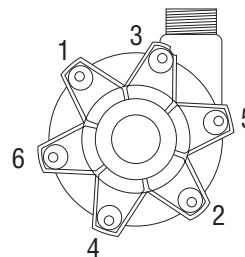

Figure 4
11. Place the barrier/housing adapter on a clean surface with the white ceramic post facing up. Place the impeller drive assembly (items 18 and 19) onto the ceramic post. Install and lubricate (with a chemically compatible lubricant) the housing o-ring (item 17).
13. Install and lubricate the diffuser o-ring (item 21). Install the diffuser assembly (item 22) being careful not to dislodge the o-ring and to keep the bolt hole alignment straight.
14. If the impeller drive shaft (item 23) was replaced, reassemble it onto the impeller assembly (item 19) by matching the three tabs on the end of the drive shaft with the three recessed slots in the impeller assembly and pressing together.
15. Looking through the hole in the center of the diffuser assembly, note the orientation of the square recess in the top of the first stage impeller drive (item 18). Insert the square end of the drive shaft through the hole in the diffuser and into the square recess in the impeller drive. Press gently but firmly to seat the drive shaft.
16. Install and lubricate the housing o-ring (item 17) onto the diffuser (item 22). Lower the first stage impeller housing (item 24) straight down onto the pump with the ceramic front spindle support sliding into the bushing (item 18A) on top of the first stage impeller assembly. Orient the housing with the direction arrow on top (same as discharge direction), the drain boss on the bottom, and with the mounting holes aligned. Install the mounting bolts and hardware (items 25A, B & C) making sure not to dislodge the housing o-ring (item 17) or the diffuser o-ring (item 21). Hand tighten the mounting bolts to pull the pump together using the pattern shown in Figure 4.